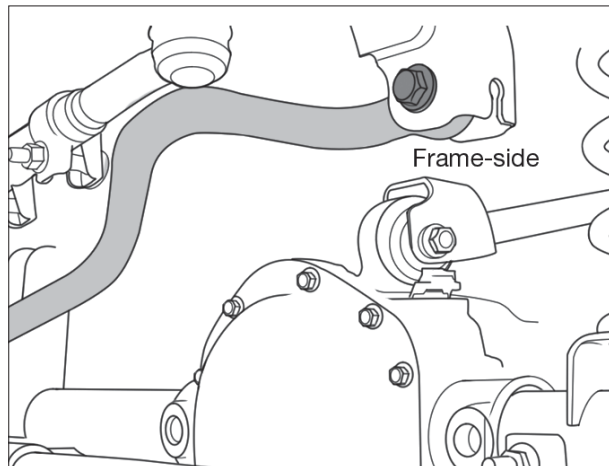

Figure 14
6. On **2007-2010** models only, loosen but DO NOT remove the frame-side track bar bolt. Remove and save the axle-side track bar bolt and flag nut (Fig. 14).